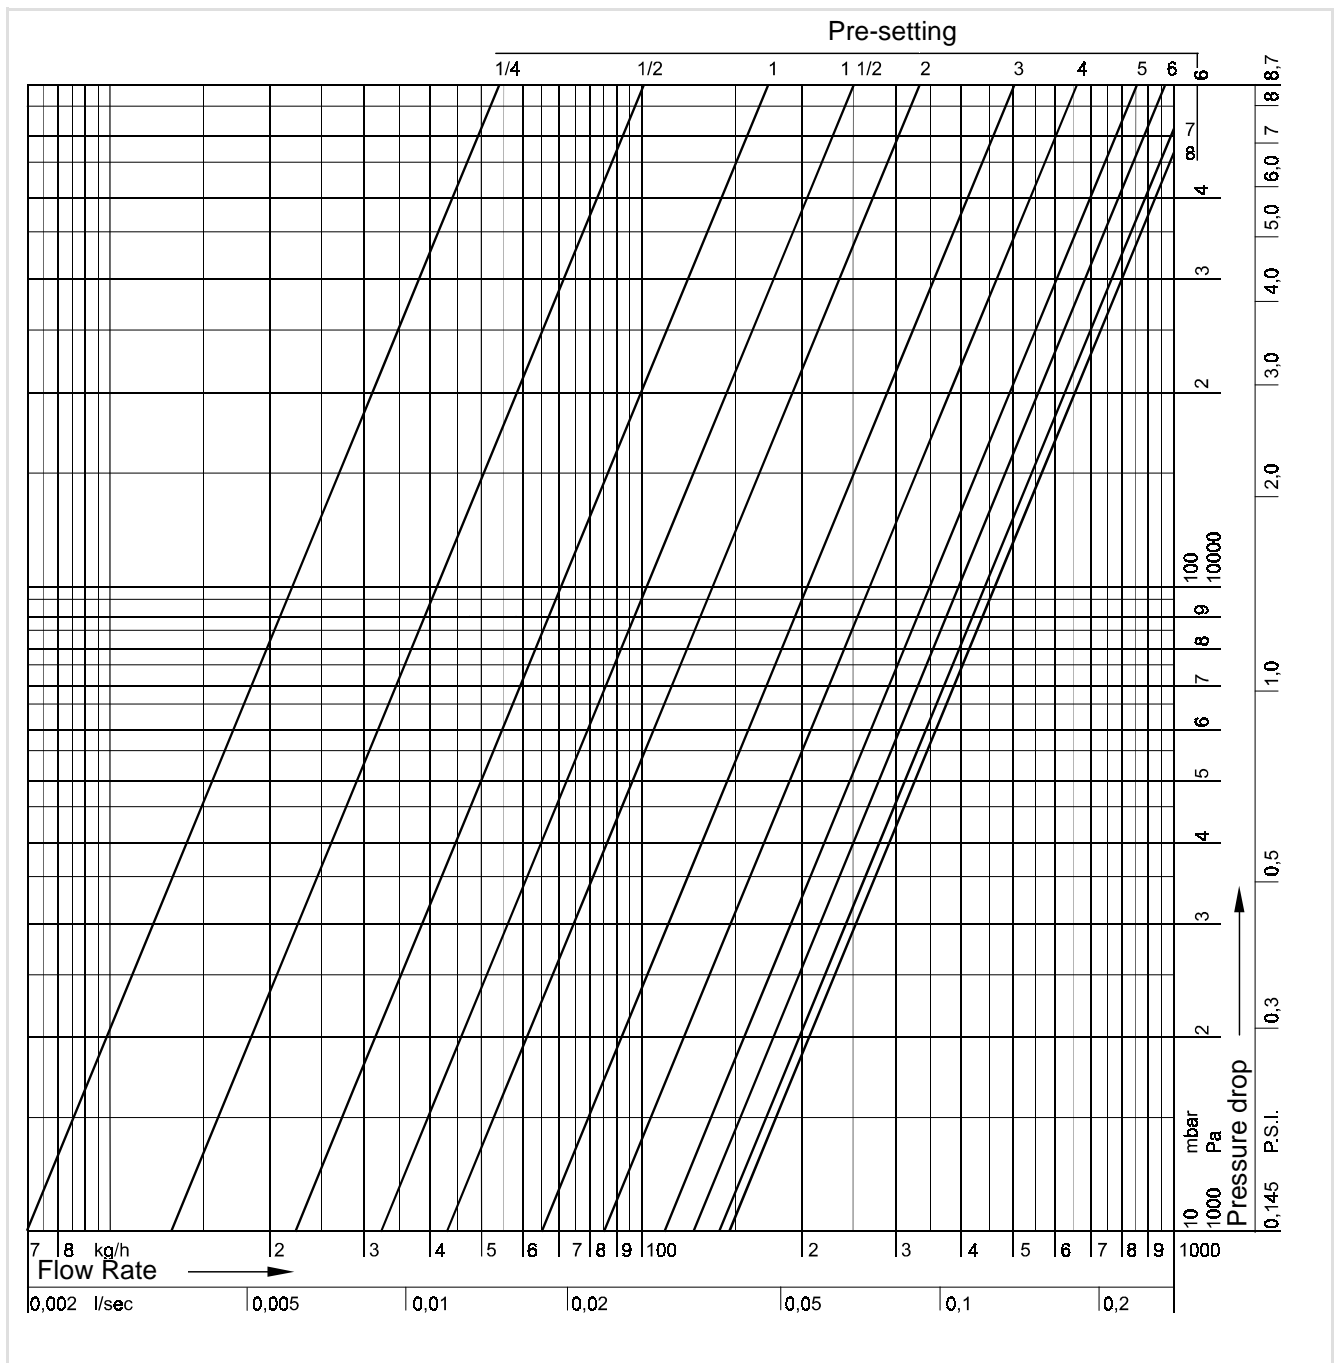
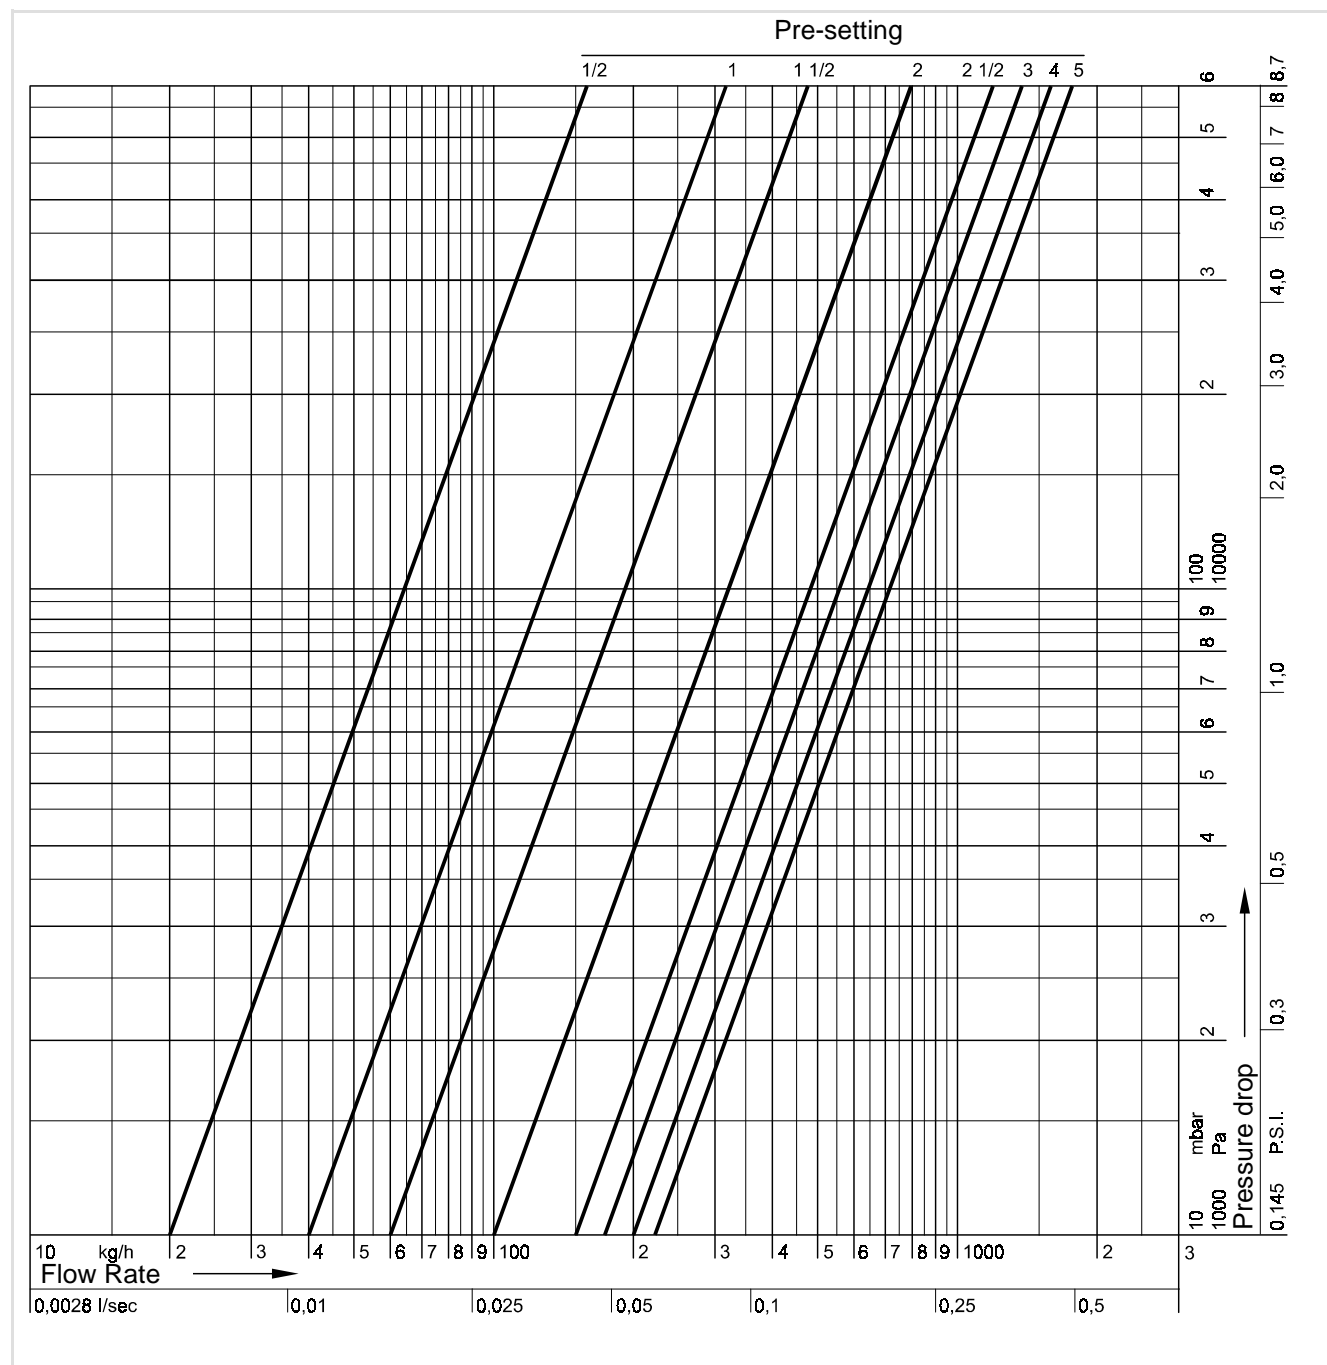

Fig. 7-3: Flow rate diagram V9400
Fig. 7-4: Flow rate diagram V9441
- Perform adjustment by rotating as specified in the diagrams (see Fig. 7-3 with Tab. 7-2 and Fig. 7-4 with Tab. 7-3). Turn the pre-setting screw in a counter-clockwise direction (max. 8 turns).